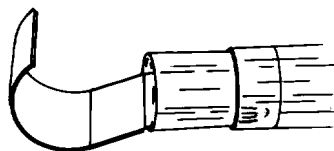

Figure 19. TG-13 Reflector
b. TG-13. Used for heating solder termination sleeves and shrinking large-diameter tubing. Used for short lengths of tubing from 3/4 inch to 2 inches in diameter and has to be ordered separately (Figure 19).